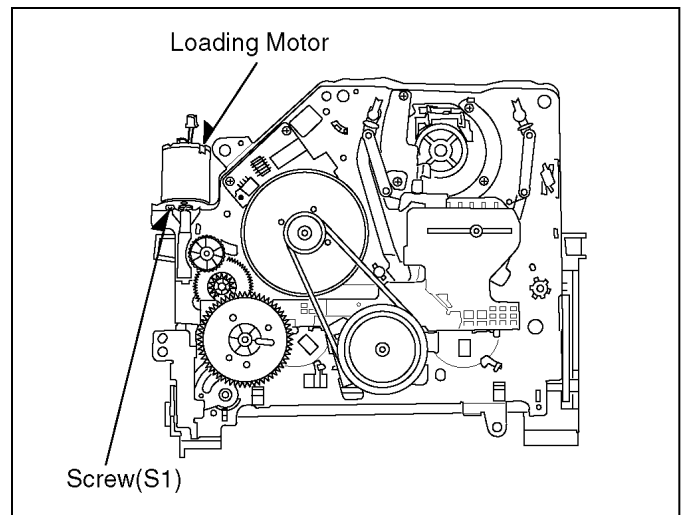

Fig. S7
3. Removal by manual operations after uninstalling the mechanism, refer to the DISASSEMBLY METHOD of item 3.1.
- b. Remove the Screw (S1) and remove the Loading Motor both as shown in Fig. S7.
- g. Install the Loading Motor and tighten screw (S1) as shown in Fig. S7.